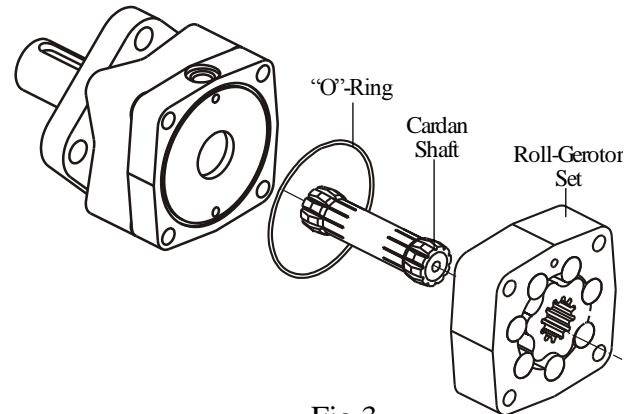

Fig.3
9. Remove cardan shaft from the splines of output shaft (see Fig.3).